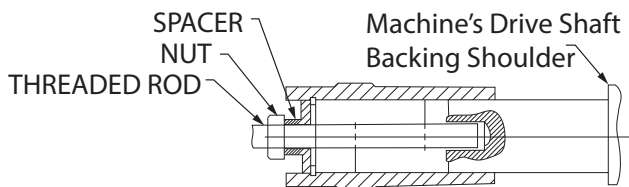
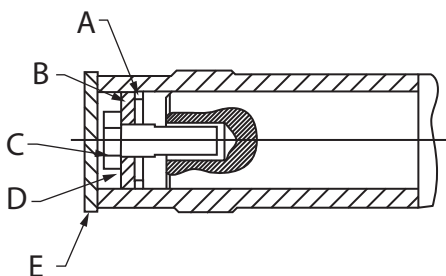

Figure 4 – Threaded Rod and Nut Assembly
Figure 5 – Finished Assembly
| Check that the reducer coupling half, with its key in place, is mounted on the reducer input shaft inside the C-face adapter. Make sure this coupling half is mounted on the reducer shaft such that the shaft extends the complete length of the coupling bore. Insert the coupling spider properly into the coupling jaws. | <ol style="list-style-type: none"> 1. Discard the motor key and replace it with the special key provided. DO NOT USE THE MOTOR KEY. 2. If the special key does not fit snugly in the motor shaft keyway, prepare the key for assembly by nicking its bottom in a couple of spots. A chisel may be used to accomplish this. This must be done on a work surface away from the Quantis unit and the motor. This nicking should widen the key bottom and cause it to fit snugly in the motor keyway. Refer to Figure 5 for definition of key bottom. 3. Install the key in the motor shaft keyway by lightly tapping it in place with a rubber mallet. 4. Locate the key so that it sits flat in the motor shaft keyway. The key will probably extend beyond the end of the motor shaft. This is okay. The key MUST NOT sit tilted in the keyway. A tilted key can occur when a motor shaft has a sled runner keyway, Refer to Figure 5. 5. Mark the clamp collar with a fine tipped marker on both sides of the setscrew to indicate where the center of the set screw is located. Run a line down both sides of the clamp collar that line up with the line previously created. 6. Remove the socket head screw and set screw from the clamp collar and apply Loctite 243 thread locker. Reinstall the screws into the clamp collar. Install the clamp collar onto the reducer input shaft and line up the mark previously made on the clamp collar with the center of the keyway in the shaft. If the clamp collar rotates freely, tighten the clamping screw slightly to keep it from rotating during assembly. Make sure the marked line is pointing to the center of the keyway. |
All shaft mounted gearboxes are furnished with A) Retaining Ring B) Keeper plate C) Retaining Bolt D) Spring Washer E) Dust Cap and Anti-Seize as shown in the finished assembly, Figure 5. Apply the anti-seize onto the customer shaft before installing reducer onto the shaft. The gearbox is pulled onto the shaft by means of a threaded rod and nut assembly as shown in Figure 4 below. The threaded rod and spacer are not supplied. The threaded rod (M) is specified in Table 5 or 6. After the gearbox has been pulled completely onto the machine shaft firmly against the machine shaft's backing shoulder, it must be locked in place with the retaining bolt tightened to the tightening torque shown in Table 4.